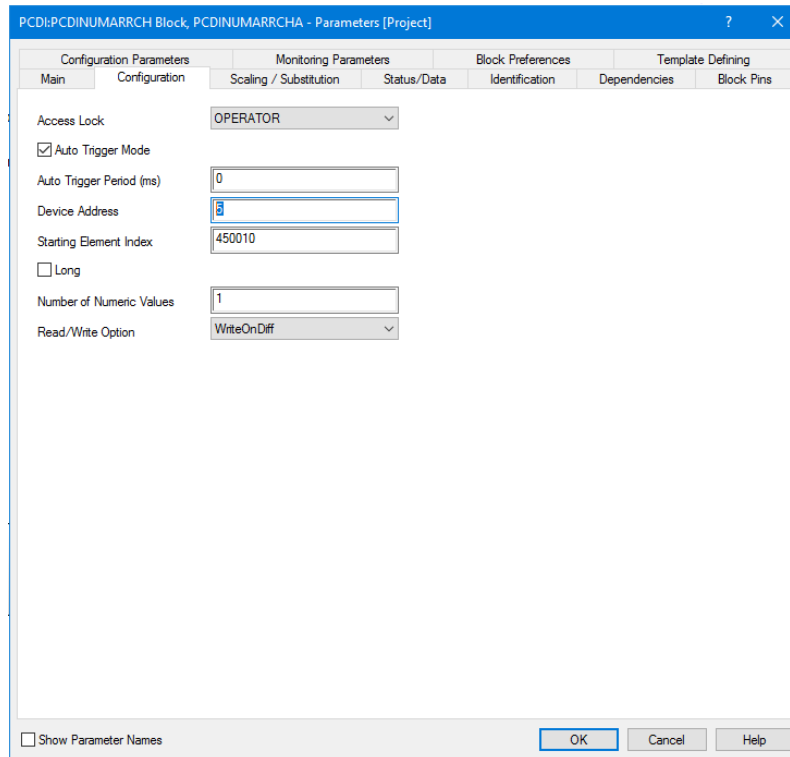

Figure 7: Changing Device address in LUP_REF_421-R1A.PCIDNUMARRCH (Step 4b).
5. Change the device address to the address observed in step 3; in this case, we need to change this value from five to seven (Figure 7).